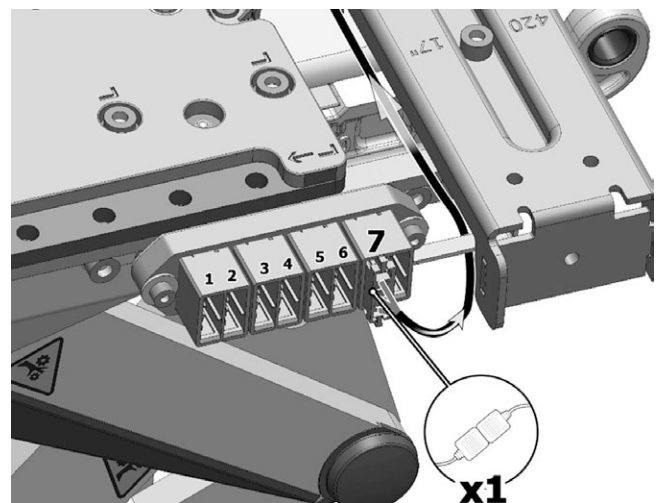

Figure 184. The ICS bus cable is connected to the seventh position of the connector block.
5. Connect the cable (1821531) that connects the ISC Master Module to the contact block at the seat frame. See fig. 184. Mount the cable to its cable brackets on the seat frame. See *Rnet and ICS bus cable mounting*, Page 83.